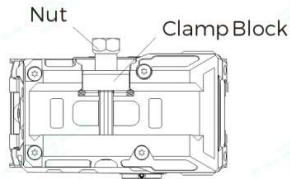

Figure 4
1. Use the included 11mm tool to loosen the nut by rotating counterclockwise. (Figure 4)